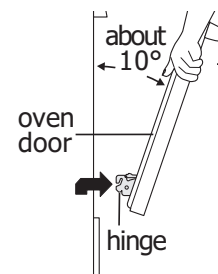

Figure 10: Lifting door from hinge hooks
3. Grasp the door by the sides, and close the door until the door frame makes contact with unlocked hinges. (Figure 10)
1. Firmly grasp both sides of oven door along the door sides. Do not use the oven door handle (Figure 10).
4. Push the door hinge locks up toward and into the oven frame on both left and right oven door hinges to the locked position (Figure 10).